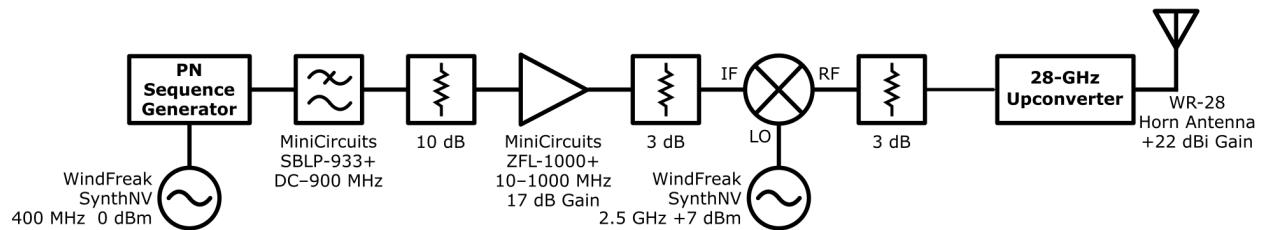
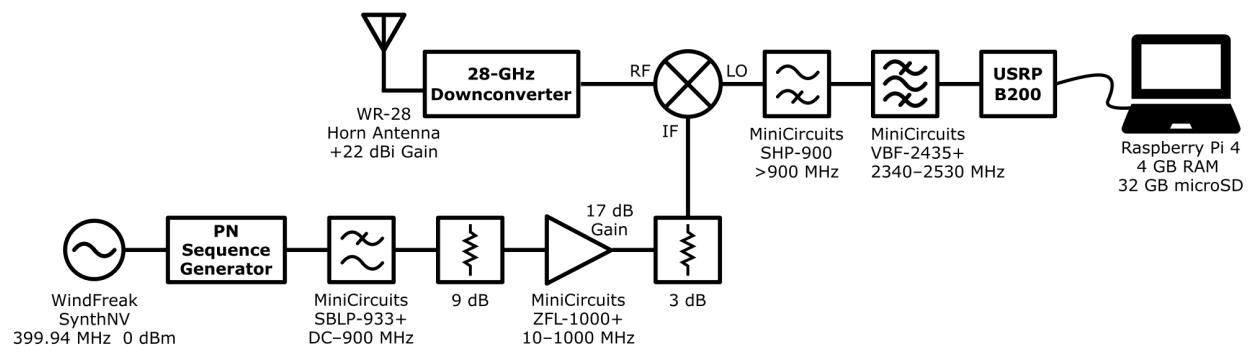

Fig. 8. The block-diagram of the 28GHz Tx communication system
Fig. 11. The block-diagram of the 28GHz Rx communication system
- 1) The block diagram for the Tx communication system is illustrated in Fig. 8.
- 3) With the CLK and LO signal validations complete, start connecting the components in the Tx circuit as illustrated in Fig. 8, without the 28GHz up-converter and the WR-28 horn antenna in the circuit; instead, connect the output of the 3dB attenuator (the one past the mixer) to the input channel of a spectrum analyzer. Also, make sure that the power supplies and/or batteries serving the various components have been turned OFF while these connections are being made. Refer to step 1 for instructions on how to choose the appropriate power supplies and/or batteries for the various components involved in this circuit.
- 4) An additional setup note here is that while configuring this circuit in indoor settings an additional 17dB attenuation is recommended (but, not absolutely necessary) to be provided at the output of the existing 3dB attenuator past the mixer in Fig. 8.
- 2) The block diagram for the Rx communication system is illustrated in Fig. 11.
- 4) With the CLK signal validation complete, start connecting the components in the Rx circuit as illustrated in Fig. 11. Leaving out the USRP B200mini and the Raspberry Pi, connect the output of the MiniCircuits VBF-2435+ band-pass filter to the spectrum analyzer. Ensure that the power supplies and/or batteries serving the various components have been turned OFF while these connections are being made. Refer to step 1 for instructions on how to choose the appropriate power supplies and/or batteries for the various components involved
- In our system, the antennas have built-in up-/down-converters (see Fig. 8 and Fig. 11), so these converters are also removed.